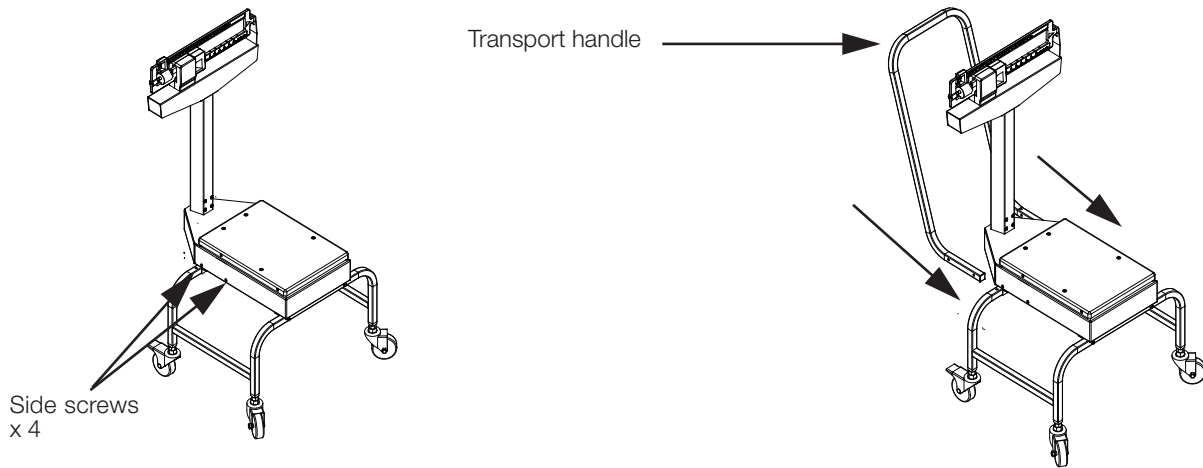

Figure 2-6. Transport Handle Installation
Once the pillar and beam are attached to the scale support frame and secured, it's time to attach the transport handle to the scale support frame (transport handle is illustrated in Figure 2-6).
1. Remove the four side screws (two on each side as shown in left hand side of Figure 2-6) from the scale support frame and set aside. The transport handle will attach to the scale support frame using those screws.
2. Insert the transport handle into the two sides of the scale support frame (shown in right side of Figure 2-6).